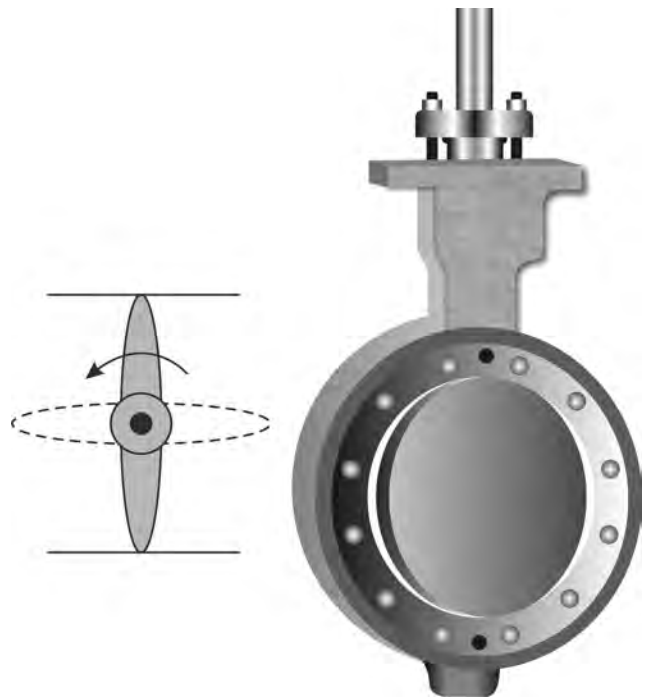

FIGURE 3.10 Butterfly valve.
- Figure 3.10 illustrates a butterfly valve.